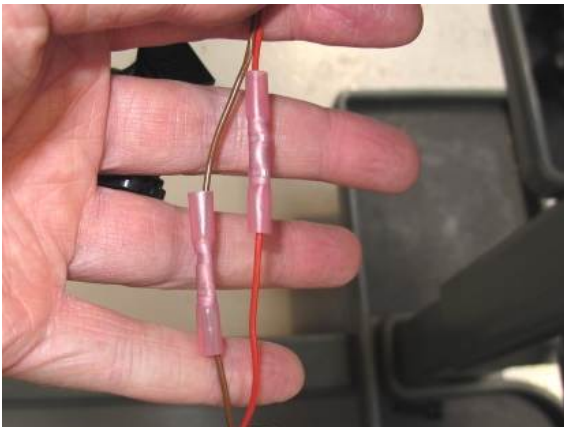

Figure 32
6. Using a red connector insert the cables as Figure 32 into the relevant ends and crimp the connector ends using special tool WT 10078/1, ensure the red crimping jaw of the crimp tool is used, align the jaw so the crimp action is applied to the centre of one half in the splice feral